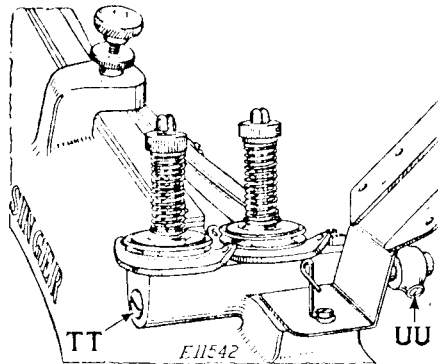

Fig. 18
The function of the needle thread tension releaser is to release the tension on the needle threads when the presser foot is raised. If the tension releaser does not release the threads when the presser foot is raised, or if the tension is partially released when the presser foot is down, loosen the set screw (UU, Fig. 18) and turn the shaft (TT) to the right or left until the correct adjustment is obtained, then tighten the set screw.